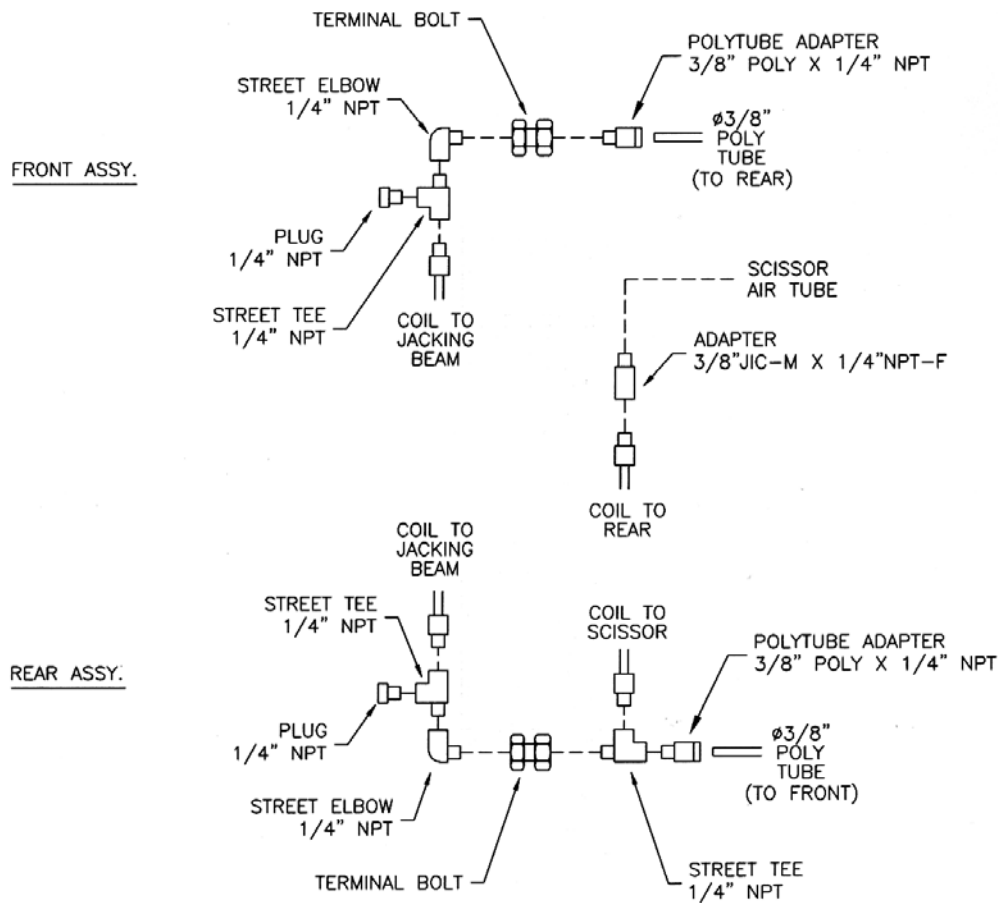

Figure 5 – Air Line Connections
3. Assemble the fittings to the front of the left side deck as shown in Figure 5. Connect the 3/8" polytube from the inside of the deck to the fitting assembly.
4. Assemble the fittings to the rear of the right side deck as shown in Figure 5. Connect the 3/8" polytube from the inside of the deck to the fitting assembly.
5. Remove one recoil hose from the accessory box and connect it to the rear fitting assembly as shown in Figure 5. Run the recoil hose under the deck and connect the opposite end to the air line on the scissors using the 3/8" JIC-M x 1/4" NPT-F adapter from the hardware kit.